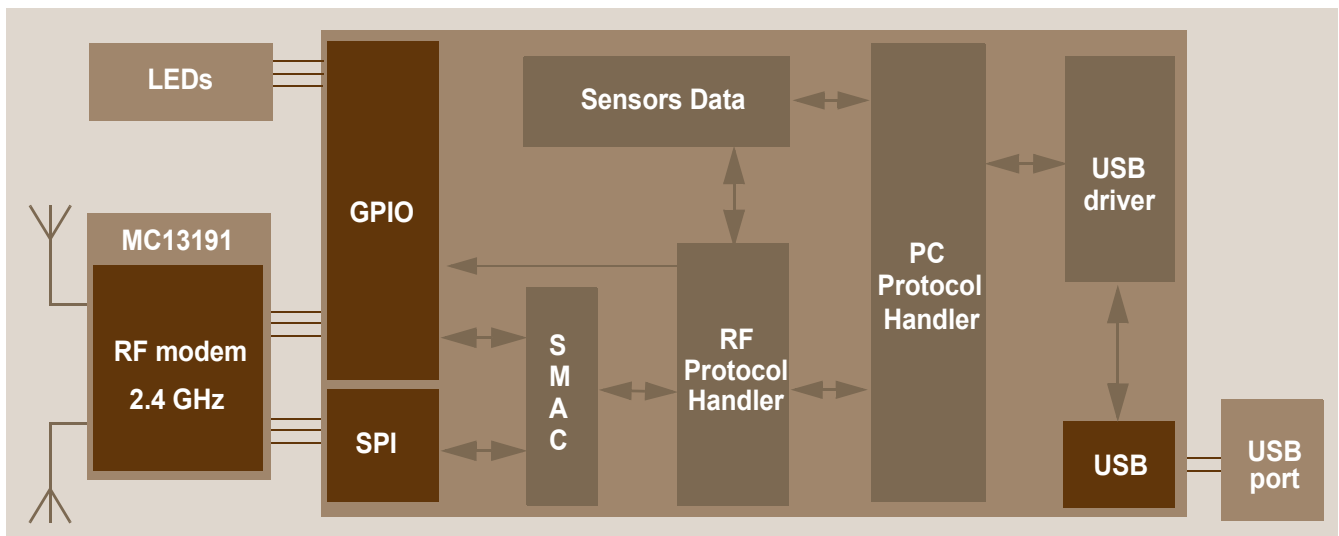

Figure 4-2. USB Stick software overview
**Figure 4-2. USB Stick software overview** shows, in more detail, how different software and hardware modules co-operate with each other. There are two main tasks of the USB stick board: